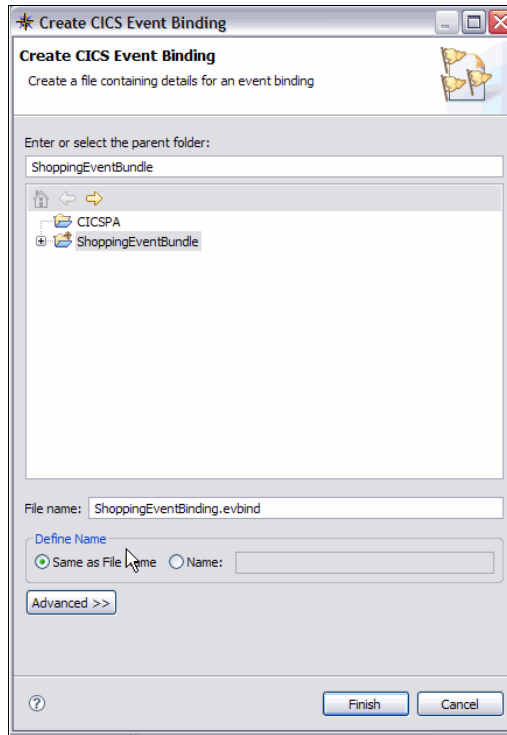

Figure 5-4 ShoppingEventBinding
4. Enter **ShoppingEventBinding** in the file name field and click **Finish**, as shown in Figure 5-4 on page 95.